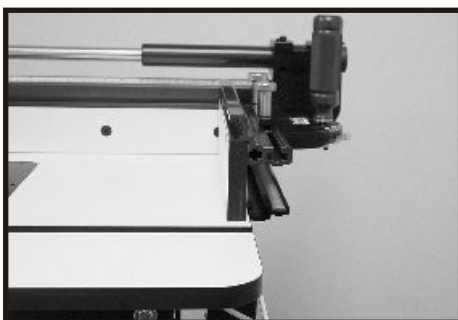

FIG. 8
7. Using two of the 1/4"-20 x 1-1/4" cap screws and two 1/4" flat washers attach each of the large and small fence clamping brackets (Items 7 & 8 on the parts diagram - page 3) to each end of the shaft using the 3/4" x 1-1/4" tapped mounting blocks. Now position the Mite-R-Slide resting against the Mast-R-Fence (Fig. 7). Position the Mite-R-Slide assembly so the sub-fence on the miter fence backs up to the edge of the table top (Fig. 8) for maximum cross cutting capacity.